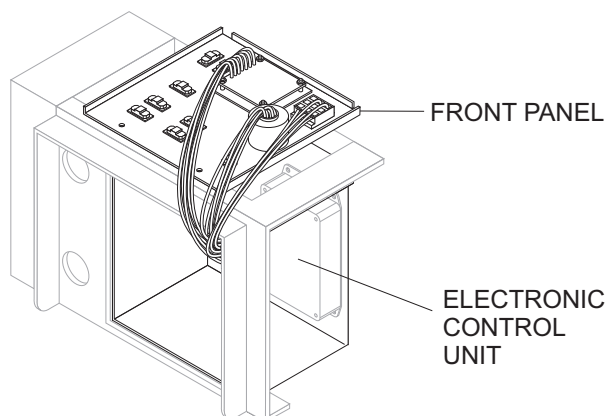

Figure 32. Pulling Out Control Panel
2. Tilt and slowly pull out the control panel and place on top (Figure 32) of control box to gain access inside the box.